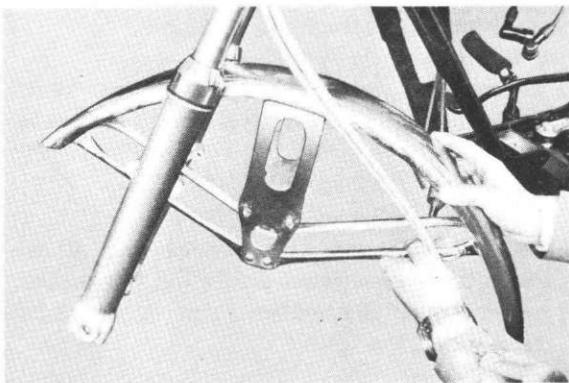

Fig. 5-8-1
- 1) Remove the front fender. (Fig. 5-8-1)
- 1) Retirez le garde-boue avant. (Fig. 5-8-1)
- 1) Vorderes Schutzbrett demontieren. (Abb. 5-8-1)